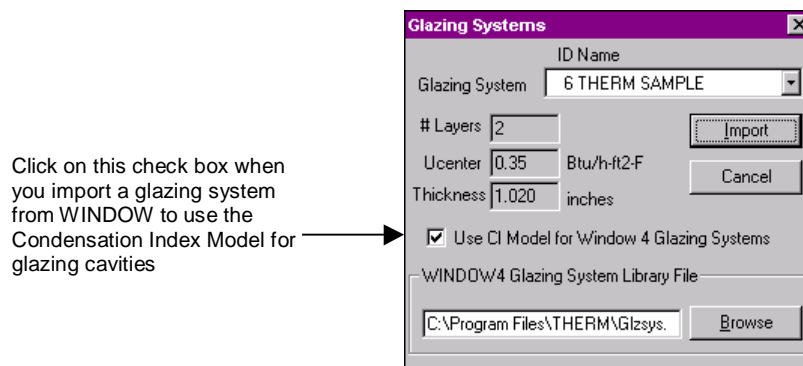

Figure 5-42. Check box for turning on the Condensation Index from the Glazing System Library when importing a system from WINDOW.
- *Turn it on for each glazing system as you import it:* By checking the **Use CI Model for Window 4 Glazing Systems** checkbox on the **Glazing System Library** dialog box when you import a system from WINDOW, as shown in Figure 5-42, you can specify for individual systems whether to use the CI Model.